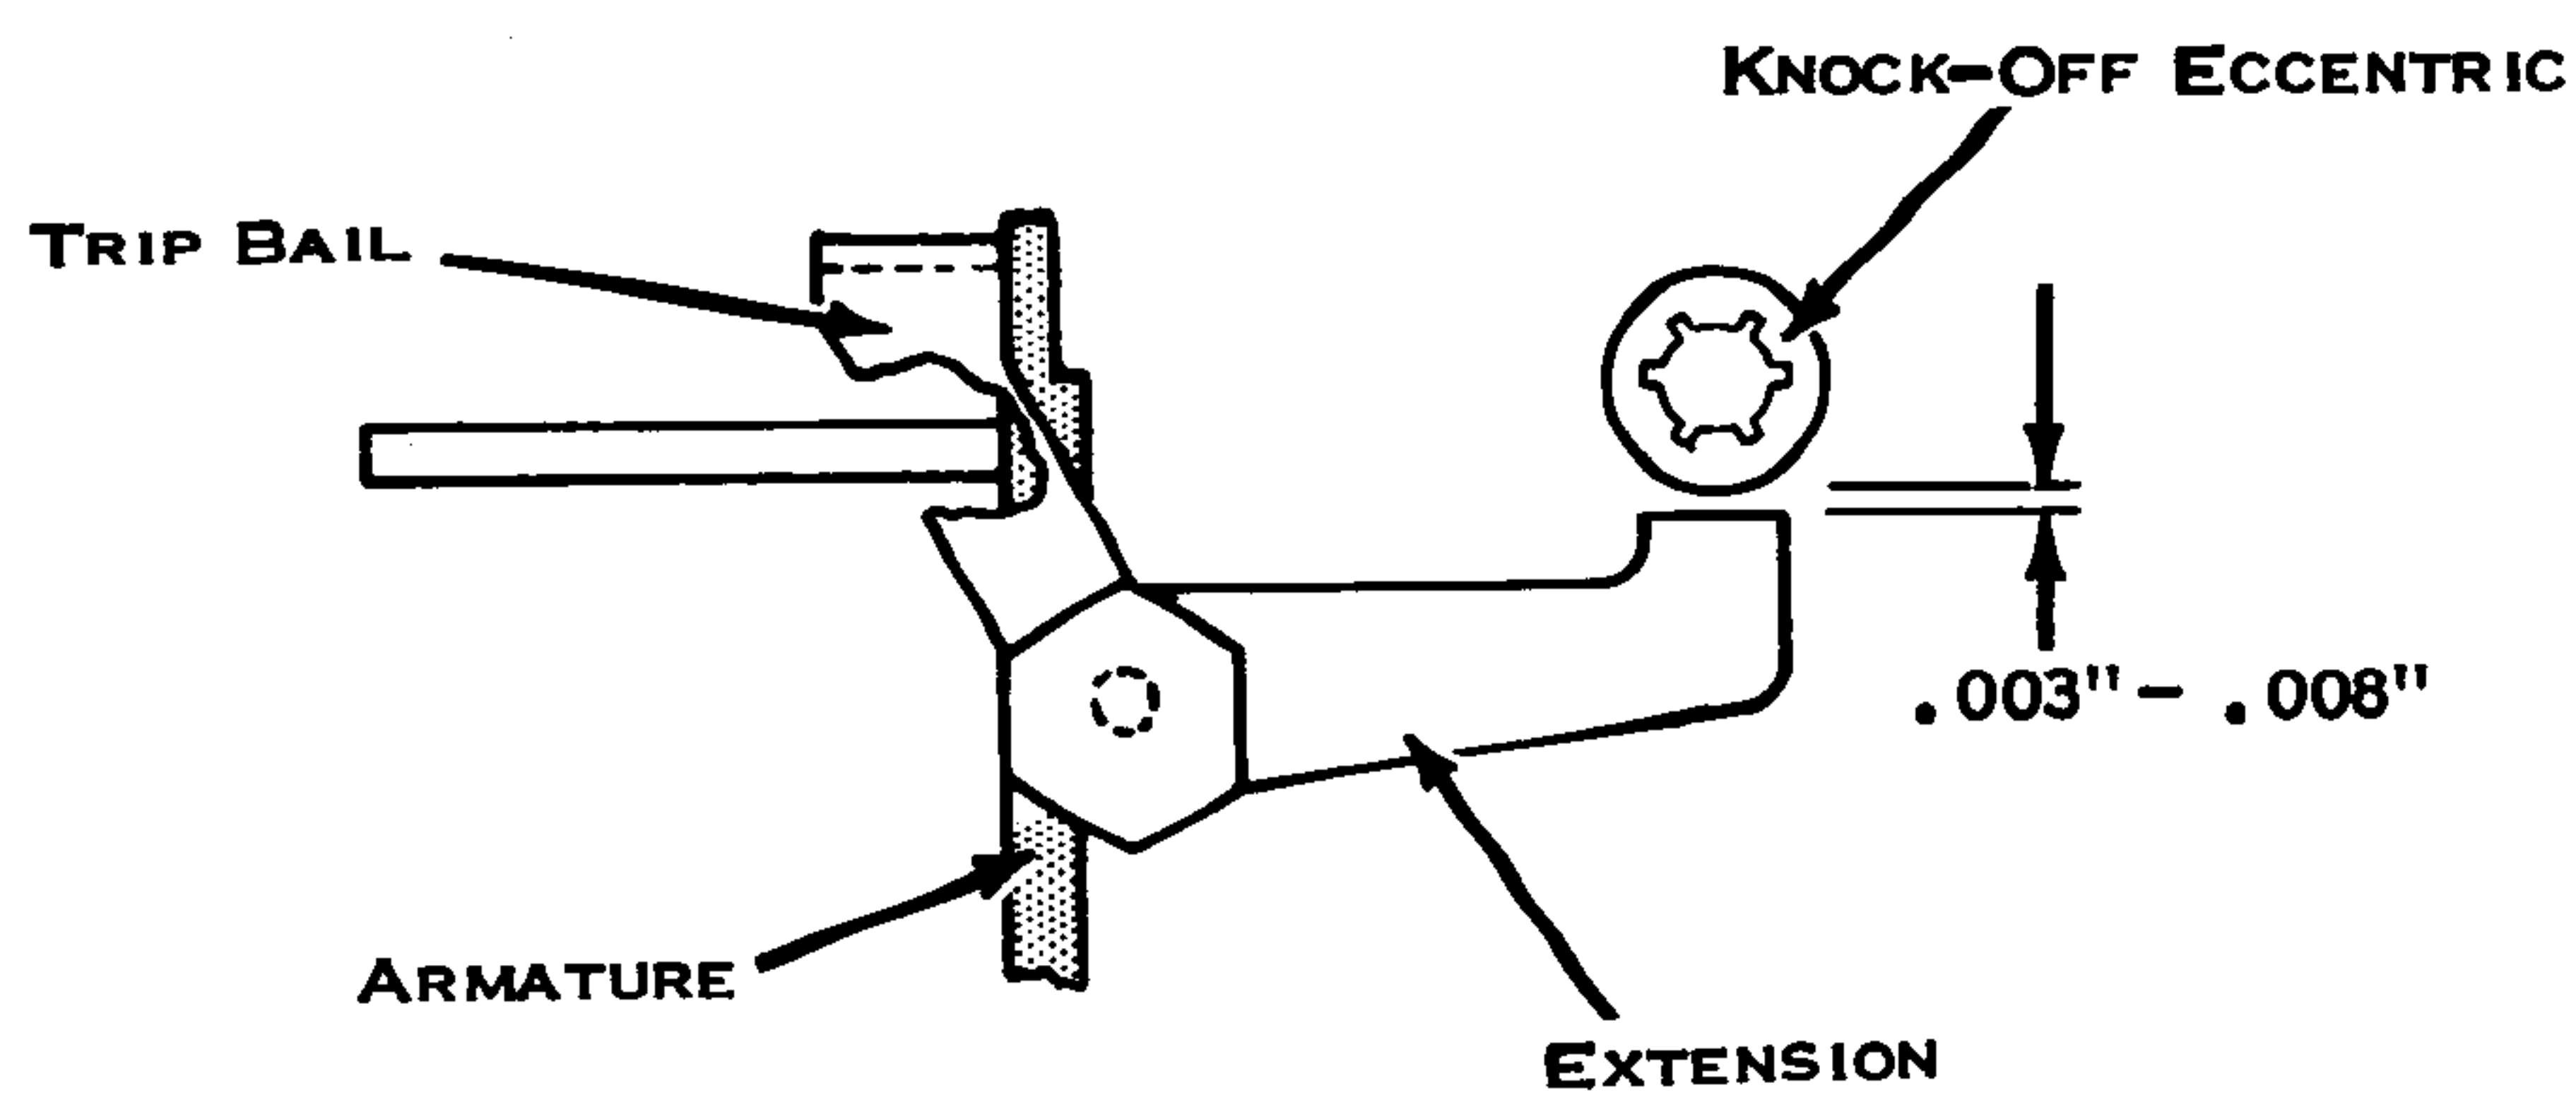

Figure 27. Knock Off Eccentrics
9. Knock Off Eccentrics (Fig. 27) - Adjust (T2 and R5 armatures manually attracted) to clear the trip bail extensions by .003" to .008".